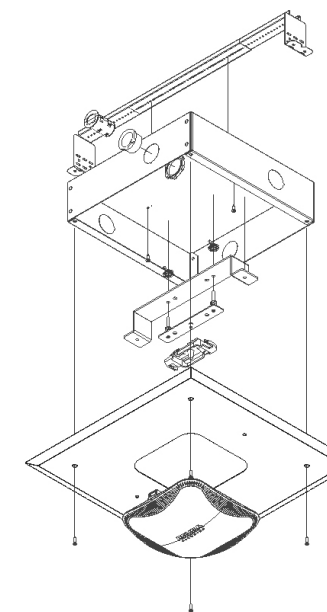

Figure 5 - Installation Into Wall/ Ceiling
Step 6 – Attach box mounting bracket to studs and secure the back box to the bracket using self-tapping screws (Figure 5).